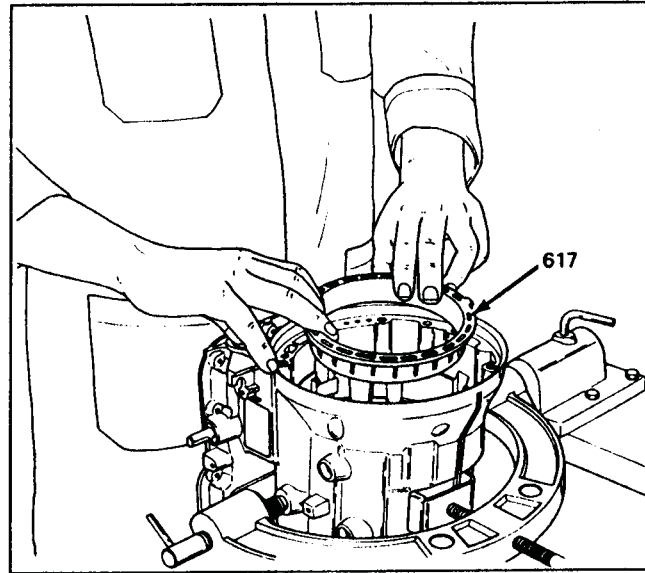

Figure 45
16. Lifting from the inside, as shown in Figure 45, remove the reverse clutch backing plate.